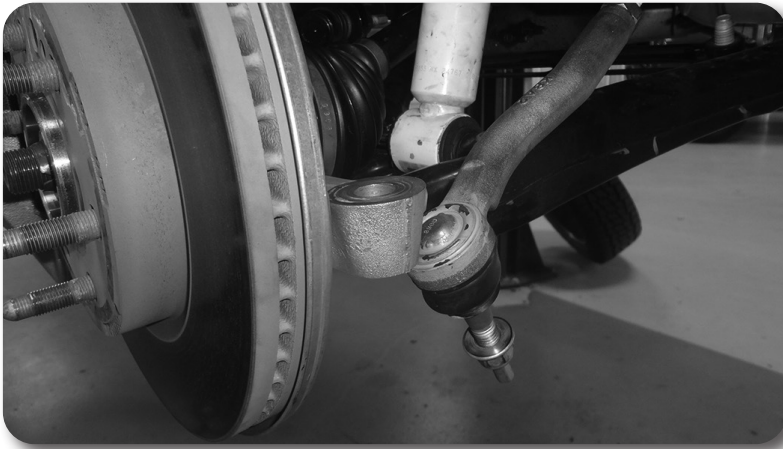

Figure 4
7. Remove the tie rod end nut. Disconnect the tie rod from the knuckle Fig. 4.